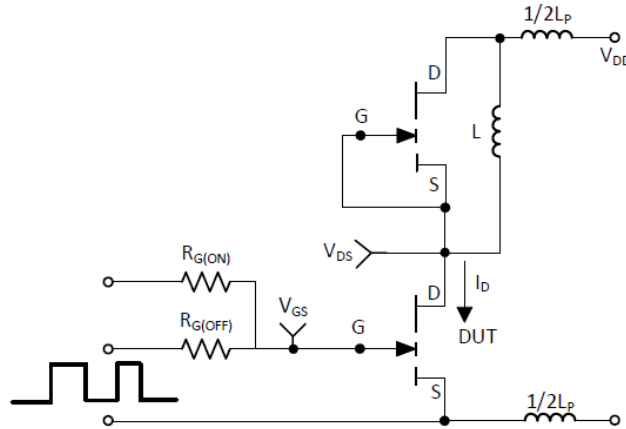

Figure 16: Switching Loss Test Circuit
(4) L_p is the switching circuit parasitic inductance.
(5) See Figure 16 for switching loss test circuit.